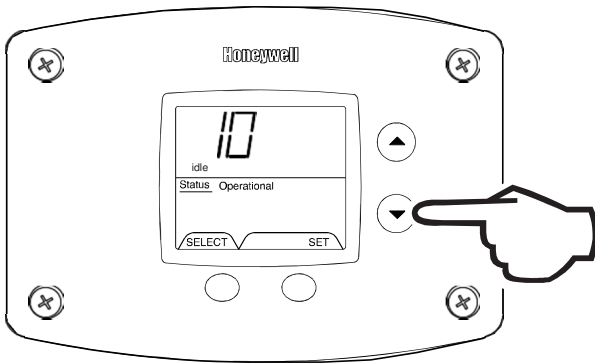

Fig. 65
2. Press the "Temperature Down" button to select the error code index, starting with the most recent error code '10' (Fig. 65).